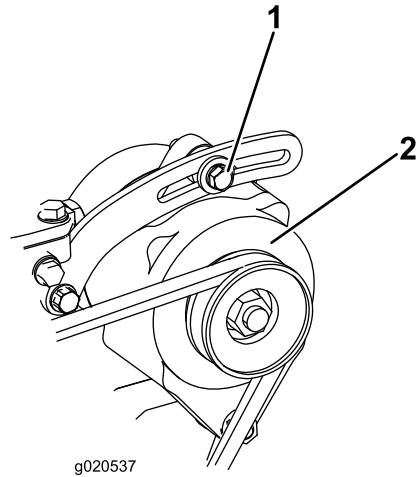

Figure 54
1. Loosen the alternator mounting bolts (Figure 54).